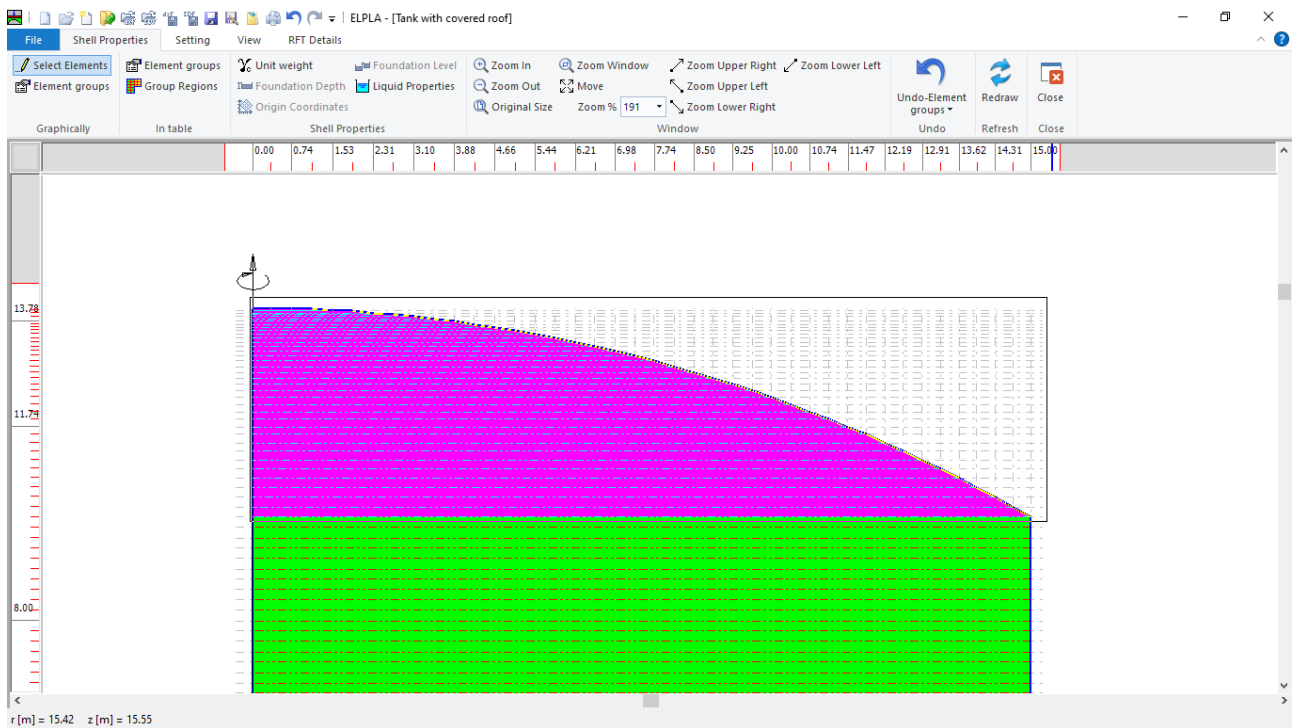

Figure 5.12 Selecting the nodes that include the tank roof
- Select the elements that include the tank roof as Figure 5.12